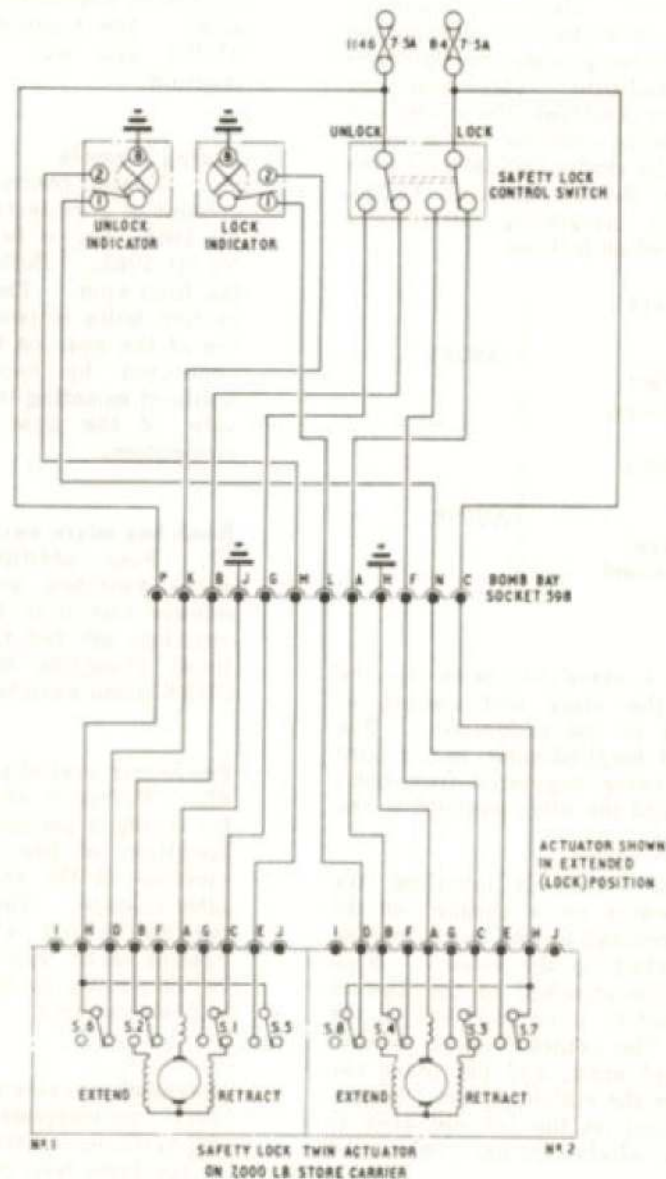

Fig.6 Release unit safety lock
75. Reference to fig.6 will show that with the control switch selected to LOCK and the actuator in the lock (extended) position, a supply from fuse 84 will be fed via pin C of socket 598 and internal indicator switch S8 of No.2 actuator to light the lock indicator. Also a test supply for the lock indicator will be fed from fuse 1146 via pin P of socket 598 and switch S6 of No.1 actuator.
* THESE CABLE ASSEMBLIES CONNECT TO SOCKETS B59 AND B60 ON FIG. 4 WHEN 10,000 LB. STORE IS CARRIED RELEASE UNIT SAFETY LOCK ACTUATOR SHOWN IN FIG. 6.